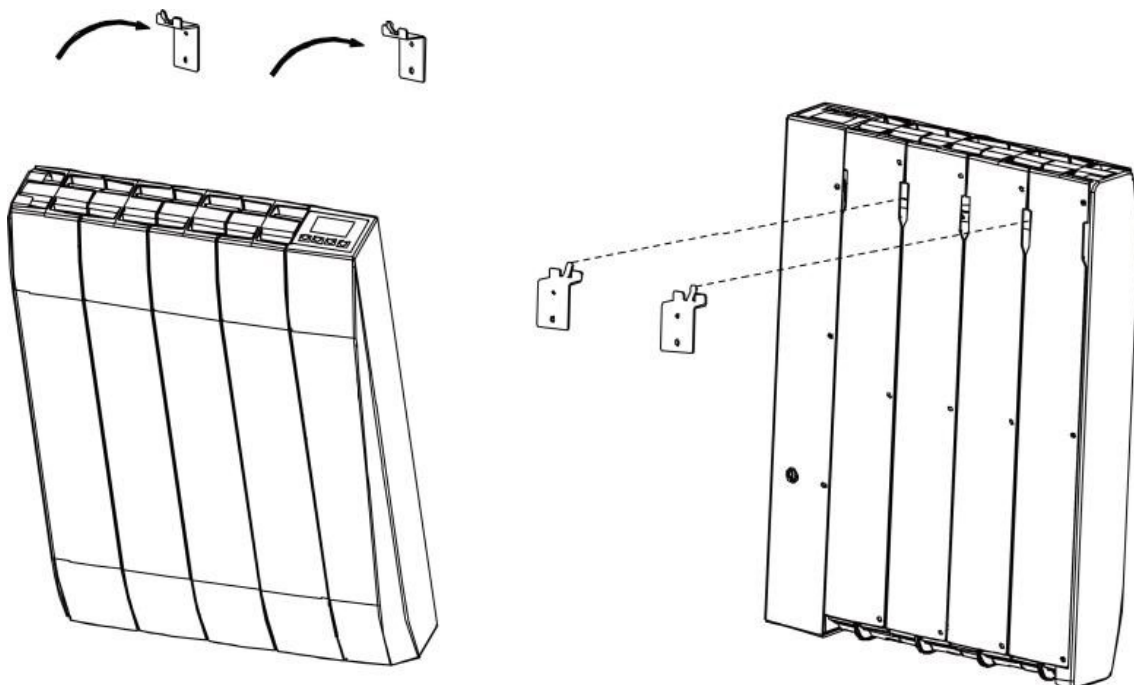

Figure 6: Fitting brackets onto the radiator
- Lift the unit and slide the upper brackets into the 2 holes between the end panels (**Figure 6**).